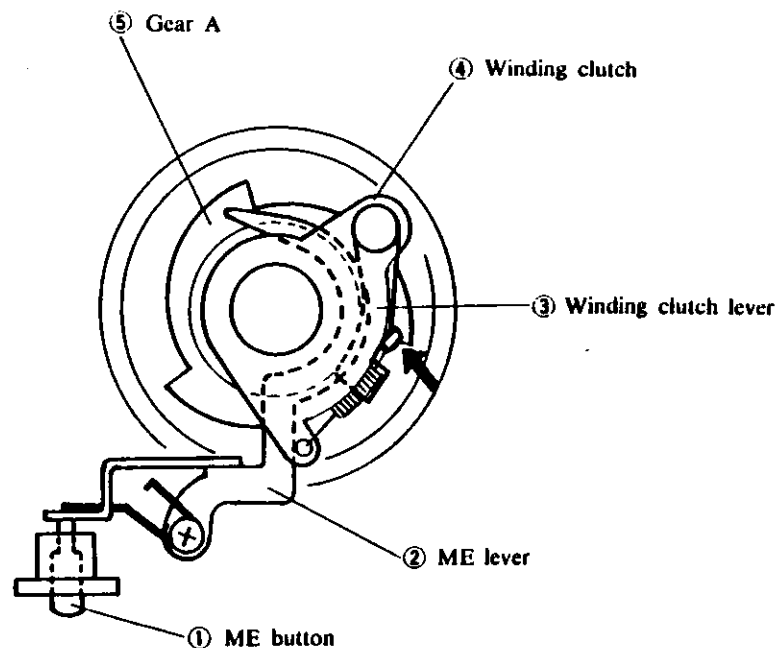

Fig. 10
## 2. Multi exposure mechanism (Fig. 10 and 11)
- 1) Fig. 10 shows the condition when ME button has not been depressed.